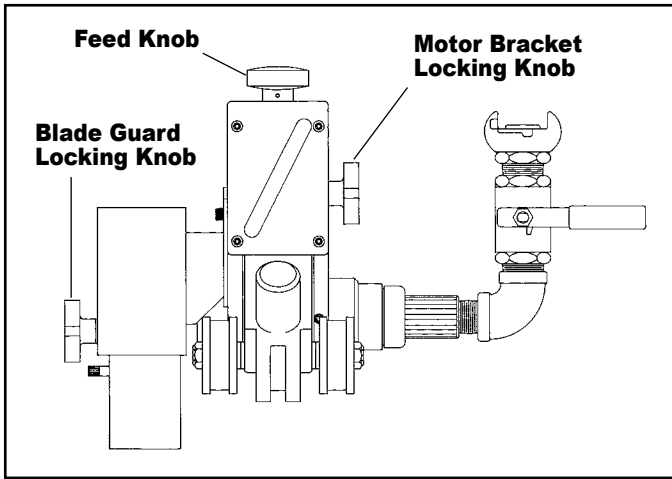

FIG. 4
1. Loosen motor bracket locking knob. (Fig. 4)
2. Retract motor bracket to uppermost position, by turning feed knob counterclockwise. (Fig. 4)
2. Turn cutter feed knob clockwise. (Fig.4) Lower motor and cutter close to, but not touching the pipe. Motor bracket locking knob should be tight, yet allow the bracket to slide.
- 2.\* Knowing the thickness of pipe to be cut, turn the feed knob clockwise, (Fig. 4) until the pointer indicates the desired depth of cutter. Allow at least  $1/4$ " of blade beyond depth of cut.
\*Exception to this would be if the bevel cutter was being used for plastic, then the cutter would be engaged until the bevel cutter began cutting. At this point the depth gage pointer could be used to determine amount of bevel. Full engagement produces a  $15/16$ " bevel. (Fig. 4)
3. Tighten motor bracket locking knob. (Fig. 4)
4. Tighten blade guard locking knob approximately 1/8" from pipe. (Fig. 4)